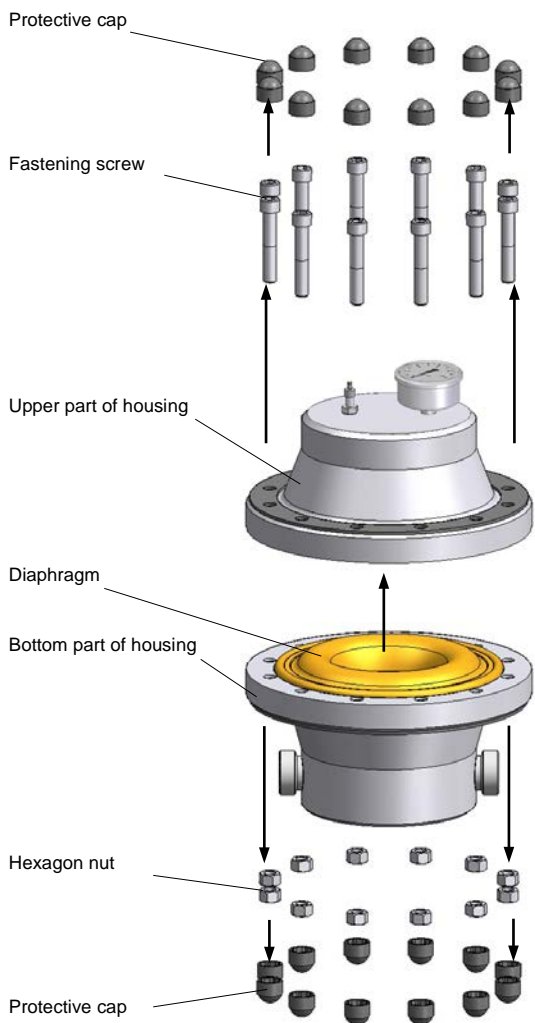

Fig. 21 Changing the diaphragm (plastic)
- Loosen fastening screws crosswise and remove upper part of the housing (see Fig. 21).